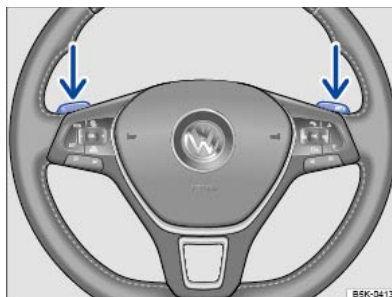

Fig. 125 Steering wheel with paddles for Tiptronic.
- Pull the right paddle ⇒ Fig. 125 towards the steering wheel to change up a gear.